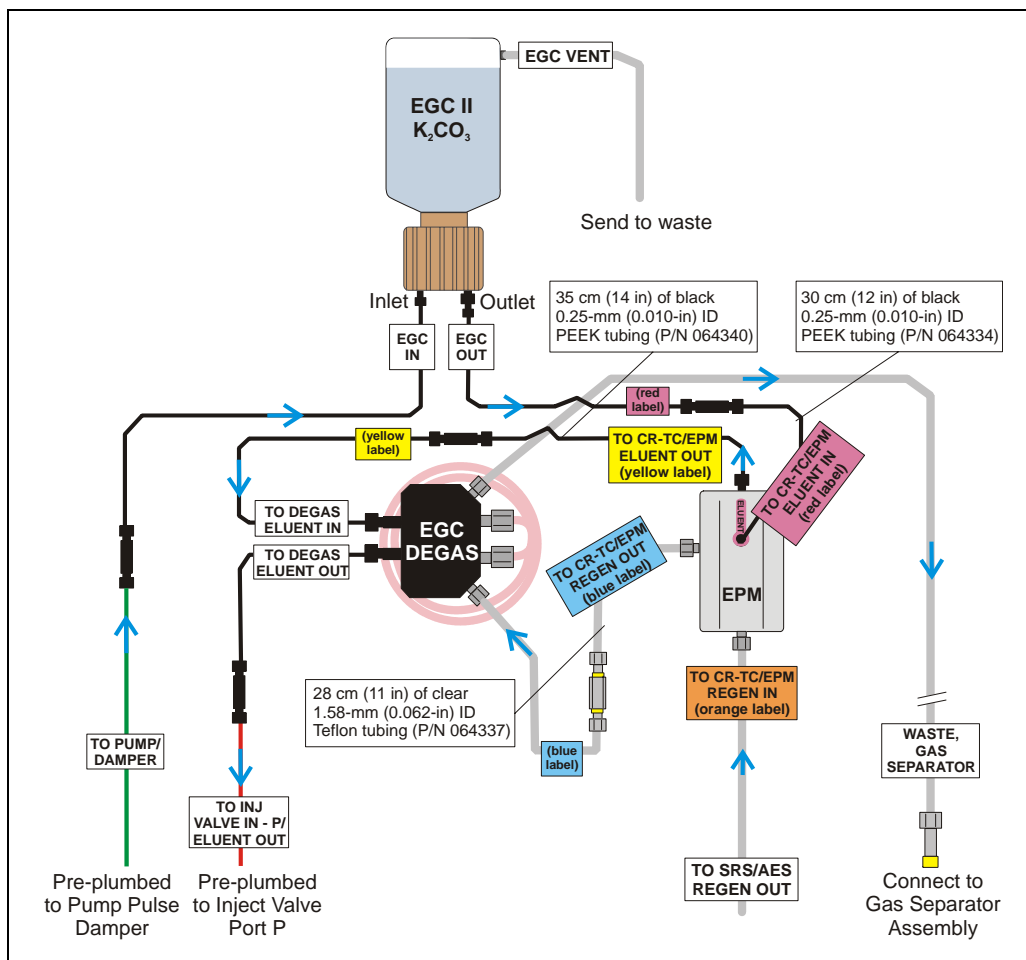

Figure 63. EluGen Cartridge and EPM Plumbing with Tubing Extensions
- a. Disconnect the **TO CR-TC ELUENT IN** line (red label) from the coupler that connects it to the **TO CR-TC ELUENT OUT** line (yellow label). Connect a 32 to 10-32 coupler to the end of the **TO CR-TC ELUENT IN** line and connect the 30 cm (12 in) length of black PEEK tubing (red labels) (P/N 064334) to the coupler (see Figure 63).
- Connect the **TO CR-TC/EPM ELUENT OUT** line (yellow label) to the **ELUENT OUT** port on the EPM (see Figure 63).